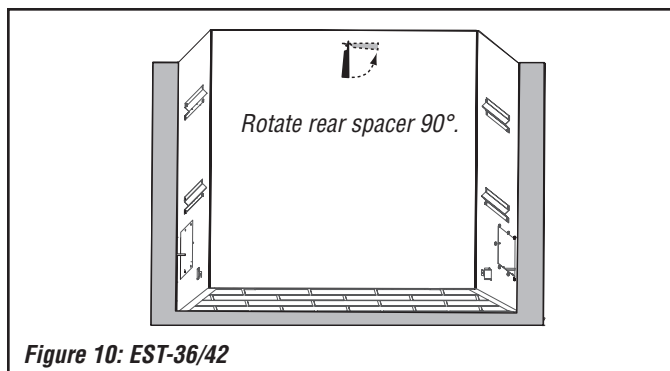
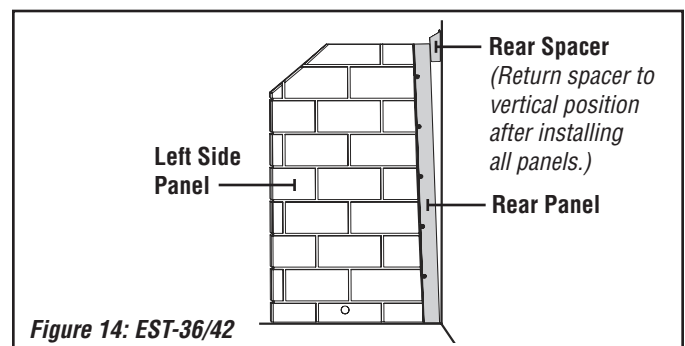

Figure 10: EST-36/42
Figure 14: EST-36/42
- 5.4. **EST-36/EST-42:** Refer to **Figure 10, below**. Rotate the rear spacer bracket 90° **COUNTER-CLOCKWISE**, and then push the rear panel flat against the rear wall of firebox.
- 8.6. Pull the top of the rear panel forward, so it is flush against the back edges of the side panels (**Figure 14, below**). This allows air to circulate behind the rear panel.
- 8.7. Rotate the rear spacer bracket 90° **CLOCKWISE**, to a **VERTICAL** position behind the rear refractory panel (see **Figure 14, below**, also refer to **Figure 10, at left**).